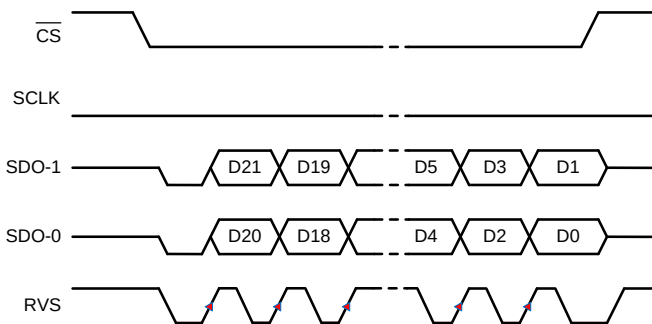

**Figure 78. SRC-INT-DS: SRC, INTCLK, Dual SDO, SDR**
| SRC-INT-DS | INTCLK (3)     | Dual      | SDR              |                                      | 4Bh      | 9                                  | <a href="#">Figure 78</a> |